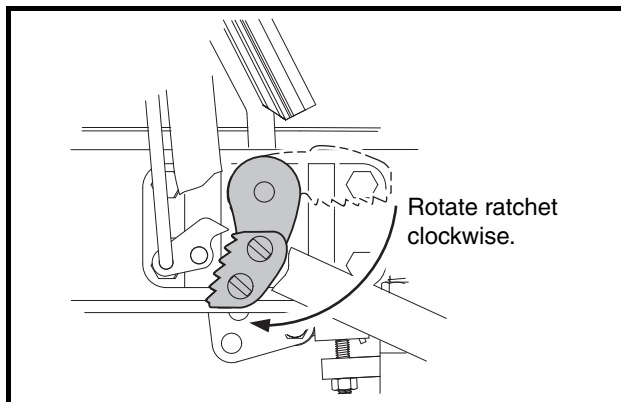

Figure 5-7 Ratchet Installation
8. Press the brake pedal slightly, and with the park brake ratchet oriented so that the tip of the ratchet is pointed toward the rear of vehicle, slide the ratchet onto the pivot rod (do not slide the ratchet onto the pivot rod splines). Release the brake pedal and allow the ratchet to rotate until its tip is pointed downward **(Figure 5-7, Page 5-8)**. The ratchet should now rotate freely on the rod.
8. Press the brake pedal slightly, and with the park brake ratchet oriented so that the tip of the ratchet is pointed toward the rear of the vehicle, slide the ratchet onto the pivot rod (do not slide the ratchet onto the pivot rod splines). Release the brake pedal and allow the ratchet to rotate until its tip is pointed downward **(Figure 5-7, Page 5-8)**. The ratchet should now rotate freely on the rod.